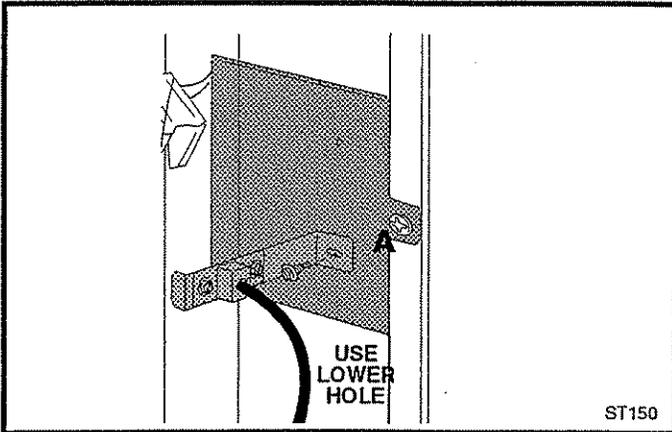

Fig. 21 Attach the snapstat bracket to the lower hole on the inside face of the side heat shield.
5. **Attach the snapstat bracket** to the lower hole on the inside face of one of the side heat shields using a sheet metal screw and #8 star washer. Choose the side from which the snapstat wire harness exits the fan housing. You may find it easier to remove the heat shield from the stove body before attaching the bracket to it. (Fig. 21)